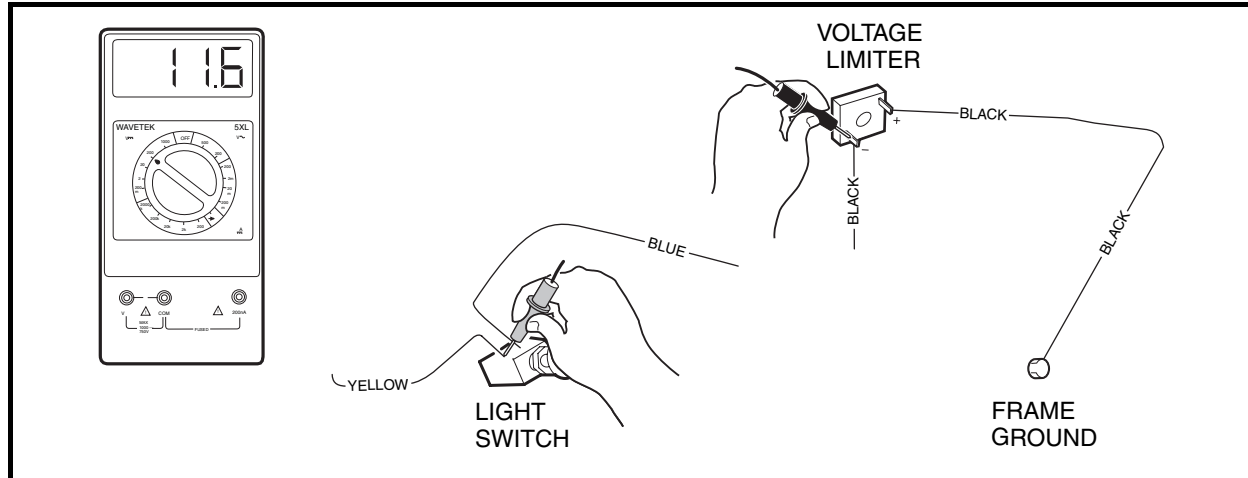

Figure 11-42 Headlight Diode Circuit Test
4. Using a multimeter set on 20 volts DC, connect the red (+) probe to the light switch terminal with the yellow wire (Figure 11-42, Page 11-38).
5. Loosen the black wire connector (on the end of the long black wire) at the headlight diode assembly just enough to maintain the connection and yet expose part of the metal terminal in the connector. Place black (–) probe on the connector (Figure 11-42, Page 11-38).